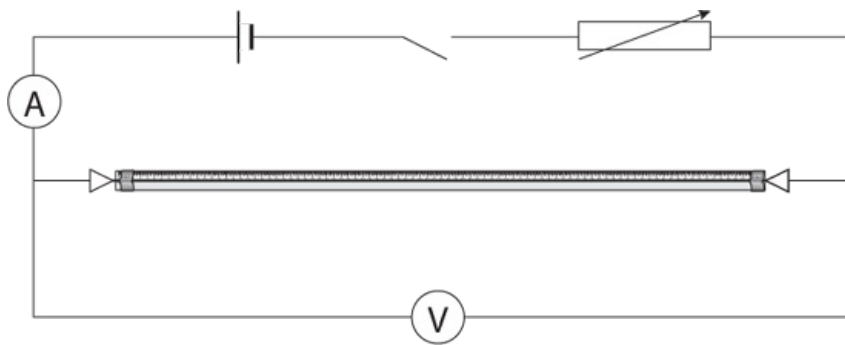

Figure 1.8: Circuit diagram for Part 4.
- 1 Connect the rheostat into the circuit as shown in Figure 1.8.